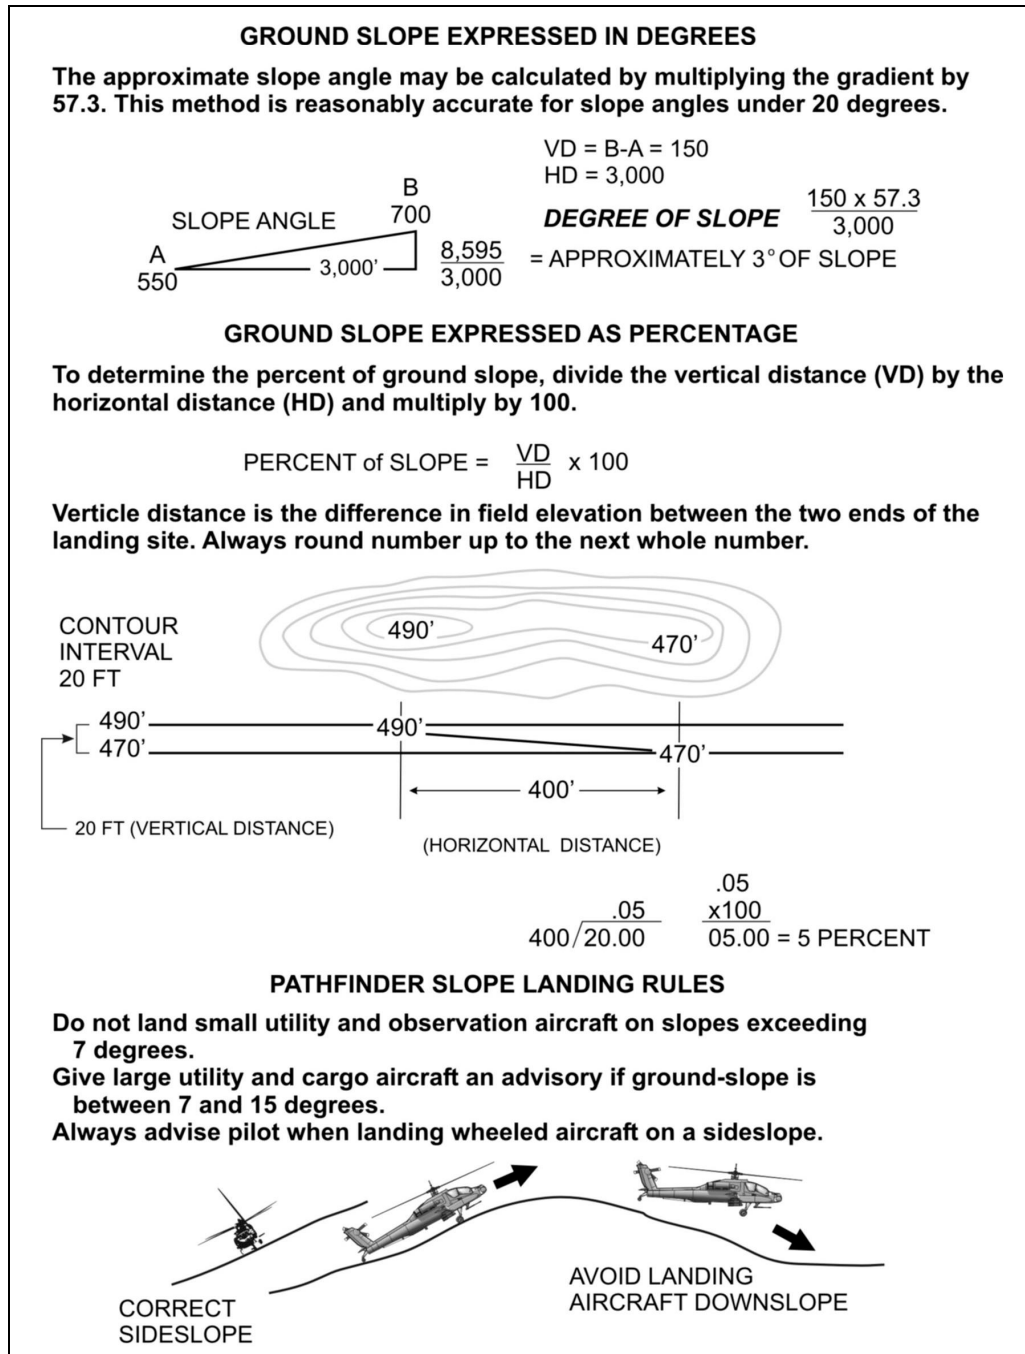

Figure 4-2. Determining ground slope.
d. **Ground Slope.** Pathfinders choose landing sites with relatively level ground. For the helicopter to land safely, the slope should not exceed 7 degrees (Figure 4-2, page 4-3). Whenever possible, pilots should land upslope rather than downslope. All helicopters can land where ground slope measures 7 degrees or less.